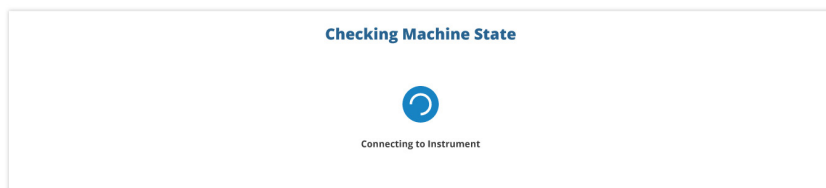
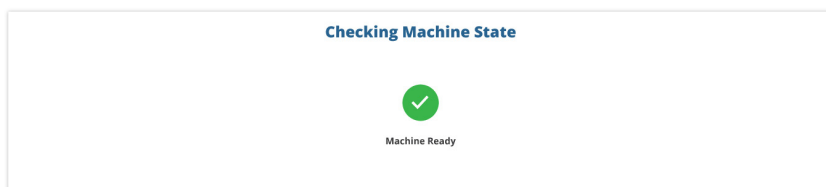
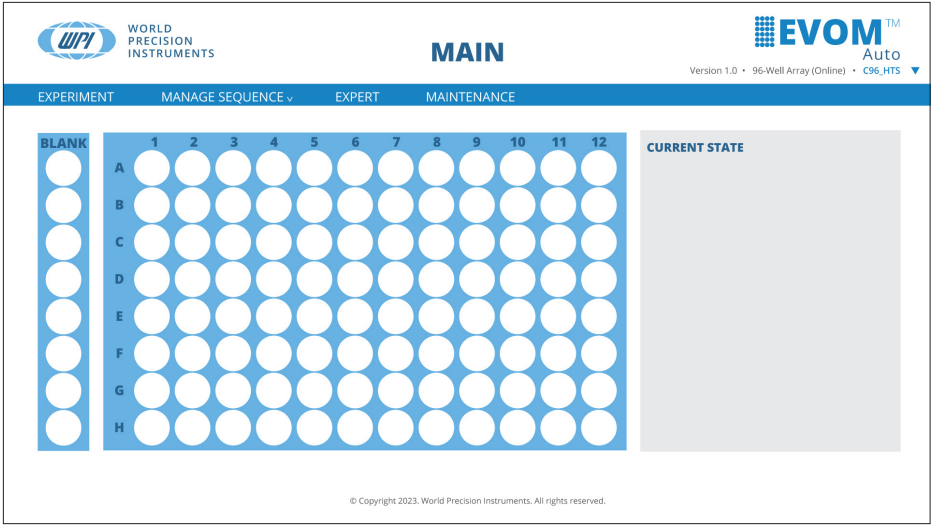

Fig. 11—Initialization screen.
Fig. 12—Machine ready message displays briefly.
Fig. 13—Home screen.
4. The Initializing window displays (Fig. 11) showing the progress. The window briefly displays a Machine Ready message when the initialization is complete (Fig. 12). Then, the *Main* window appears (Fig. 13).